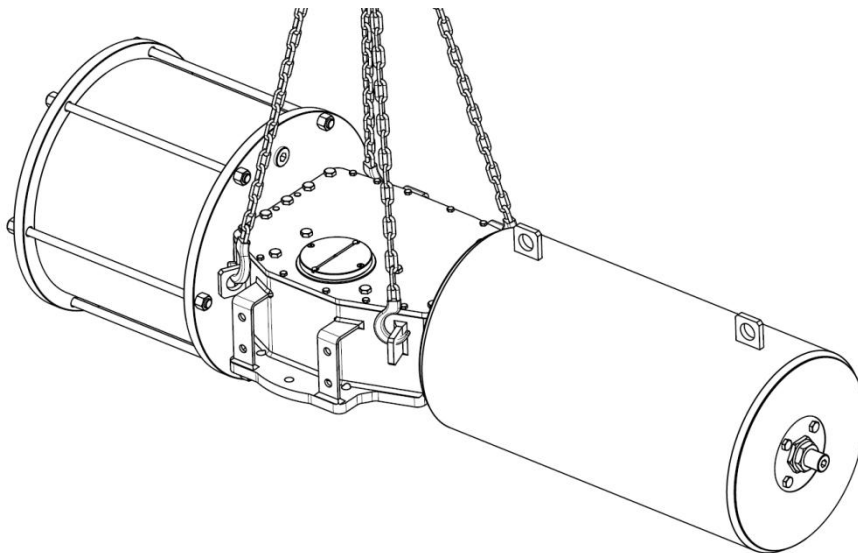

Fig. 2 – Lifting points for RTQS actuator series
<p>Warning</p> 	<p>The lifting and handling must be made by qualified staff and in compliance with the laws and provisions in force.</p> <p>Lift the actuator as shown in Fig.2.</p> <p>The lifting points are appropriate for the lifting of the actuator alone and not for the valve + actuator assembly.</p> <p>Avoid that during the handling, the actuator passes above the staff.</p> <p>The actuator should be handled with appropriate lifting means.</p> <p>The weight is reported on the delivery bill and on overall-dimensions drawings furnished with the documents accompanying the actuator.</p> <p>In case the information regarding the weight is missing consult www.stiactuation.com for base actuators or ask this information at info@stistrumentazione.com</p>
- Conditions in which the machinery meets the requirement of stability during use, transportation, assembly, dismantling when out of service, testing or foreseeable breakdowns, are shown in Fig.2.